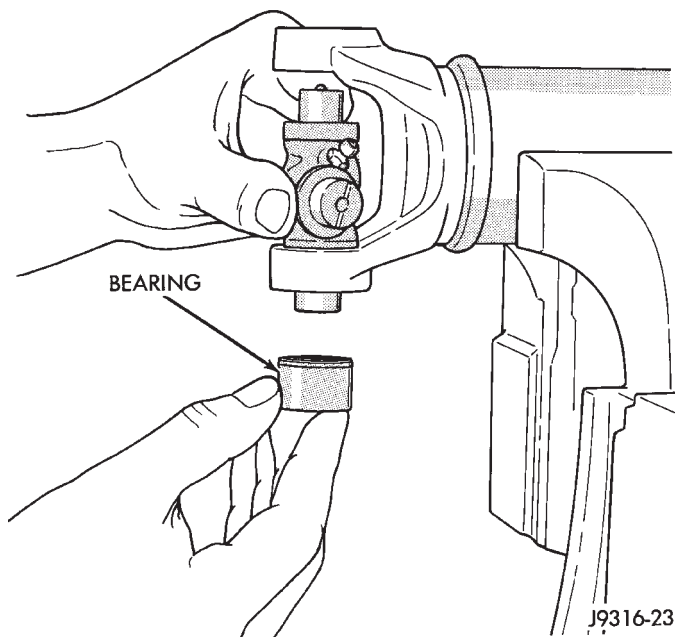

Fig. 22 Install Bearing On Trunnion
(3) Place a bearing assembly over the trunnion and align it with the cross hole (Fig. 22). Keep the needle bearings upright in the bearing assembly. A needle roller lying at the bottom will prevent proper assembly.